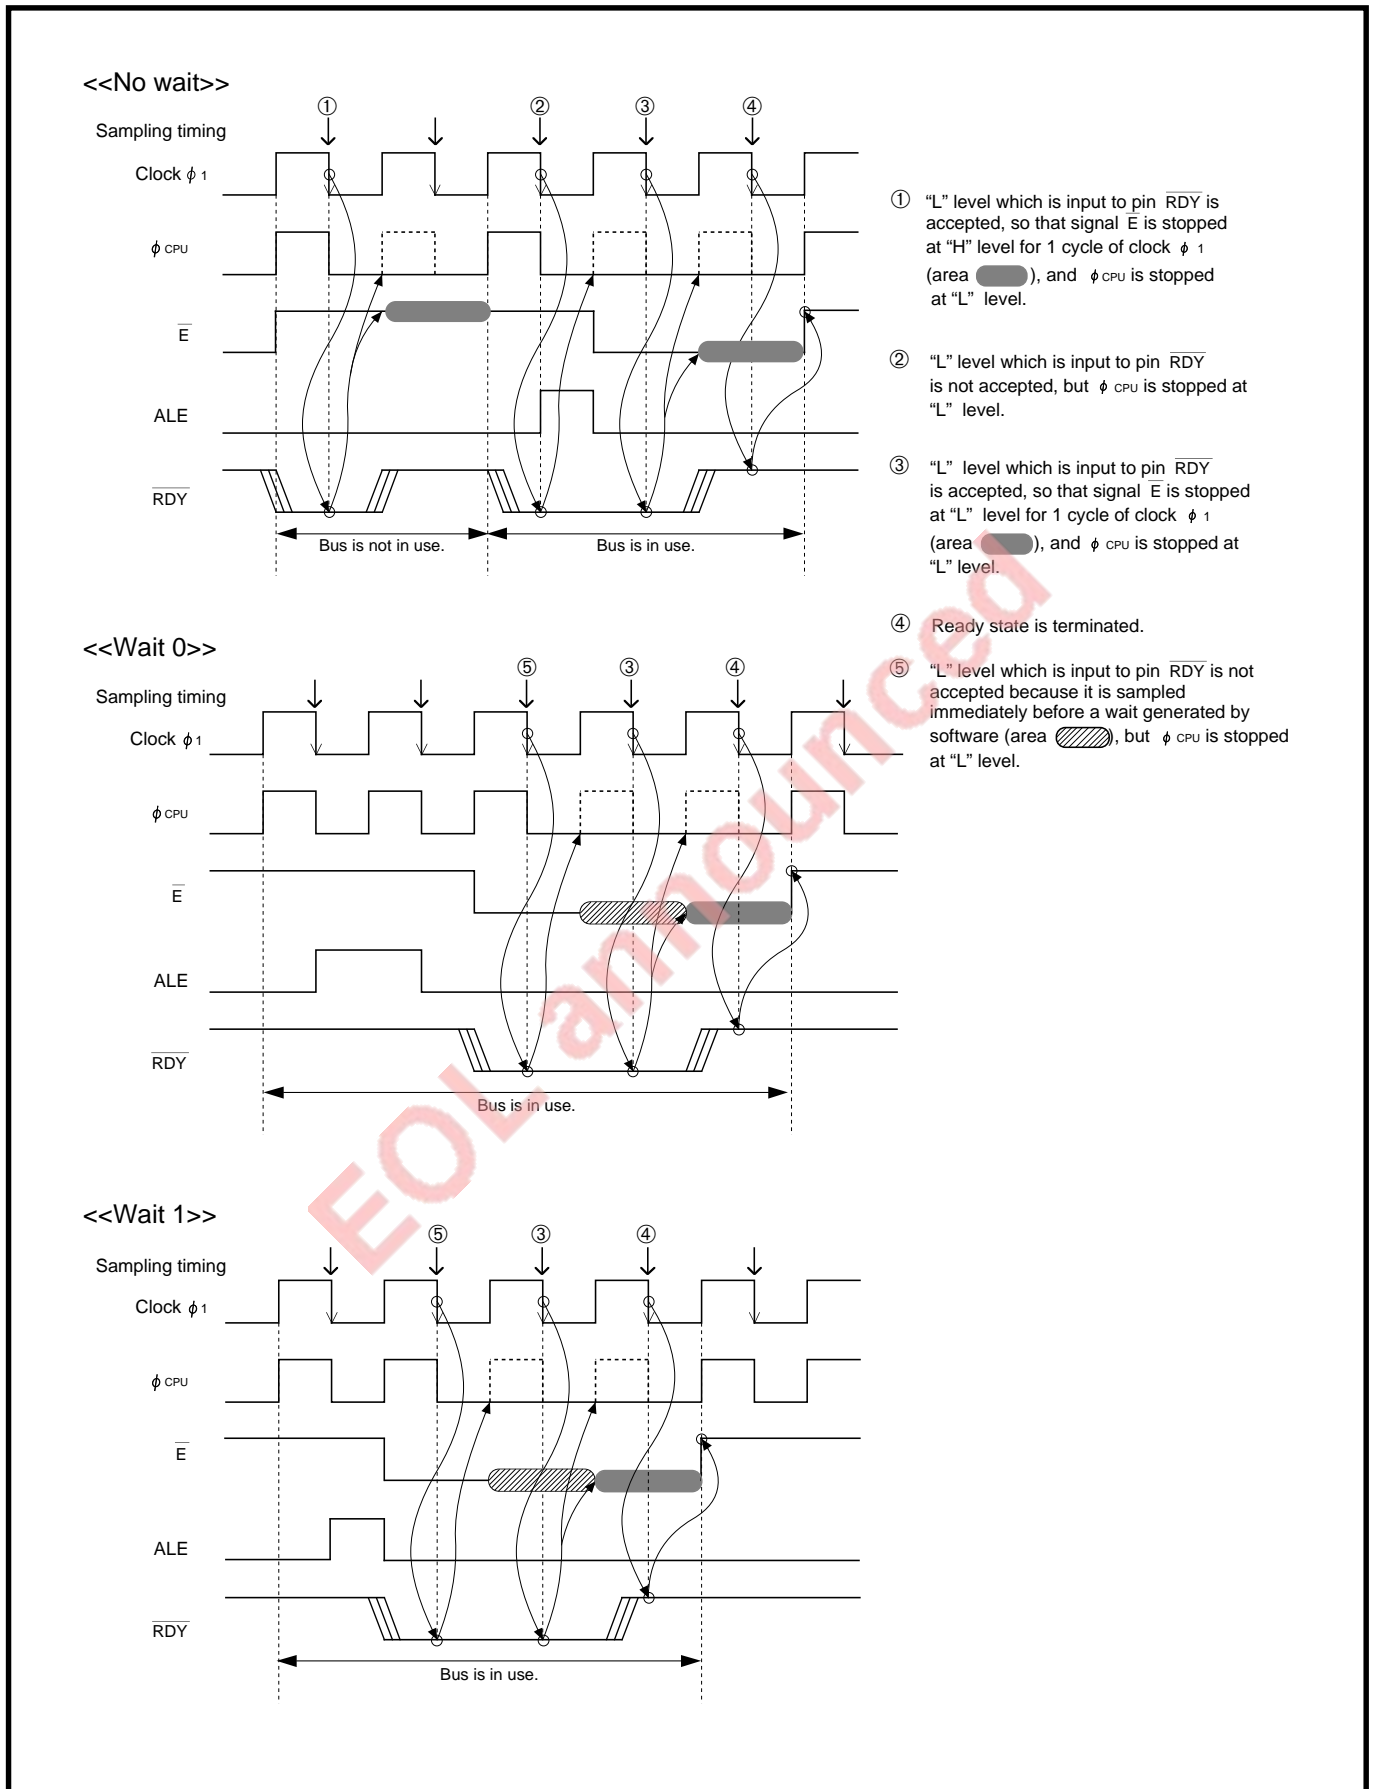

Fig. 12.3.1 Timings when ready state is accepted and terminated
- When the level of signal \bar{E} is “H” while the bus is in use (Refer to ② in Figure 12.3.1.)
- Immediately before a wait generated by the software wait (Refer to ⑤ in Figure 12.3.1.)
When “L” level is input to pin $\overline{\text{RDY}}$, this signal is accepted at the falling edge of clock ϕ_1 and the microcomputer enters the ready state. The ready state can be terminated by setting pin $\overline{\text{RDY}}$'s level to “H” again. When “H” level is input to pin $\overline{\text{RDY}}$, this signal is also accepted at the falling edge of clock ϕ_1 and the ready state is terminated. Figure 12.3.1 shows timings when the ready state is accepted and terminated. Refer to section “17.1 Memory expansion” for the way to use the ready function.